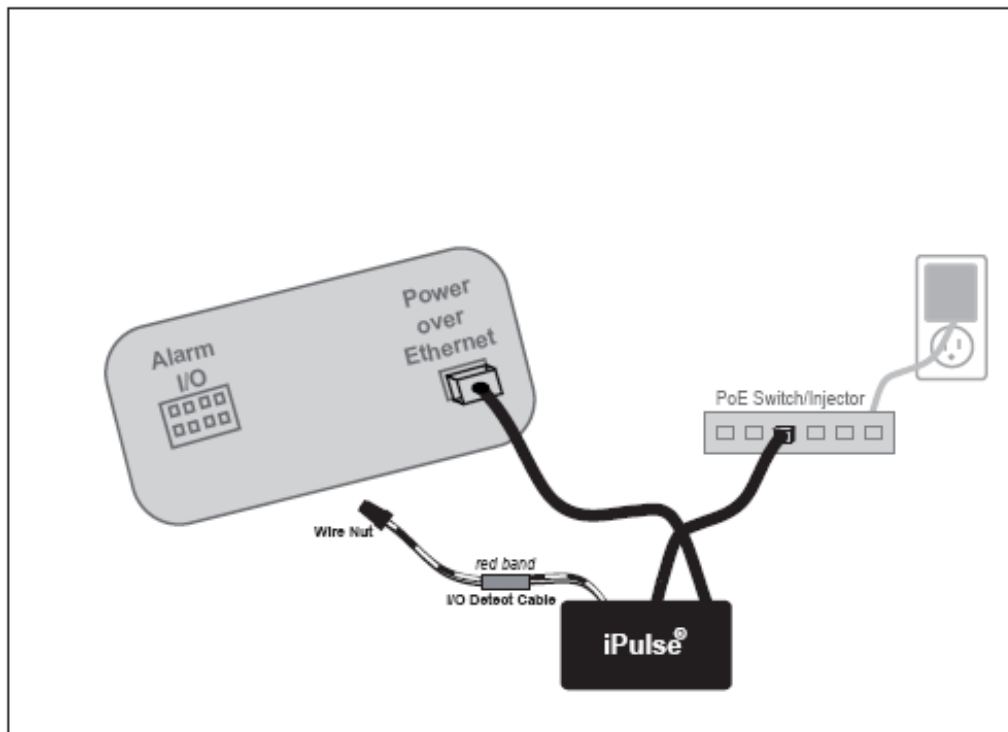

Figure 2: iPulse® PoE – Timed Mode Installation
The Timed Reset Mode connections are shown in Figure 2.
2. Connect the provided 1' Ethernet cable from the iPulse PoE **device** port to the camera's (or other PoE device) PoE port (see Figure 2).